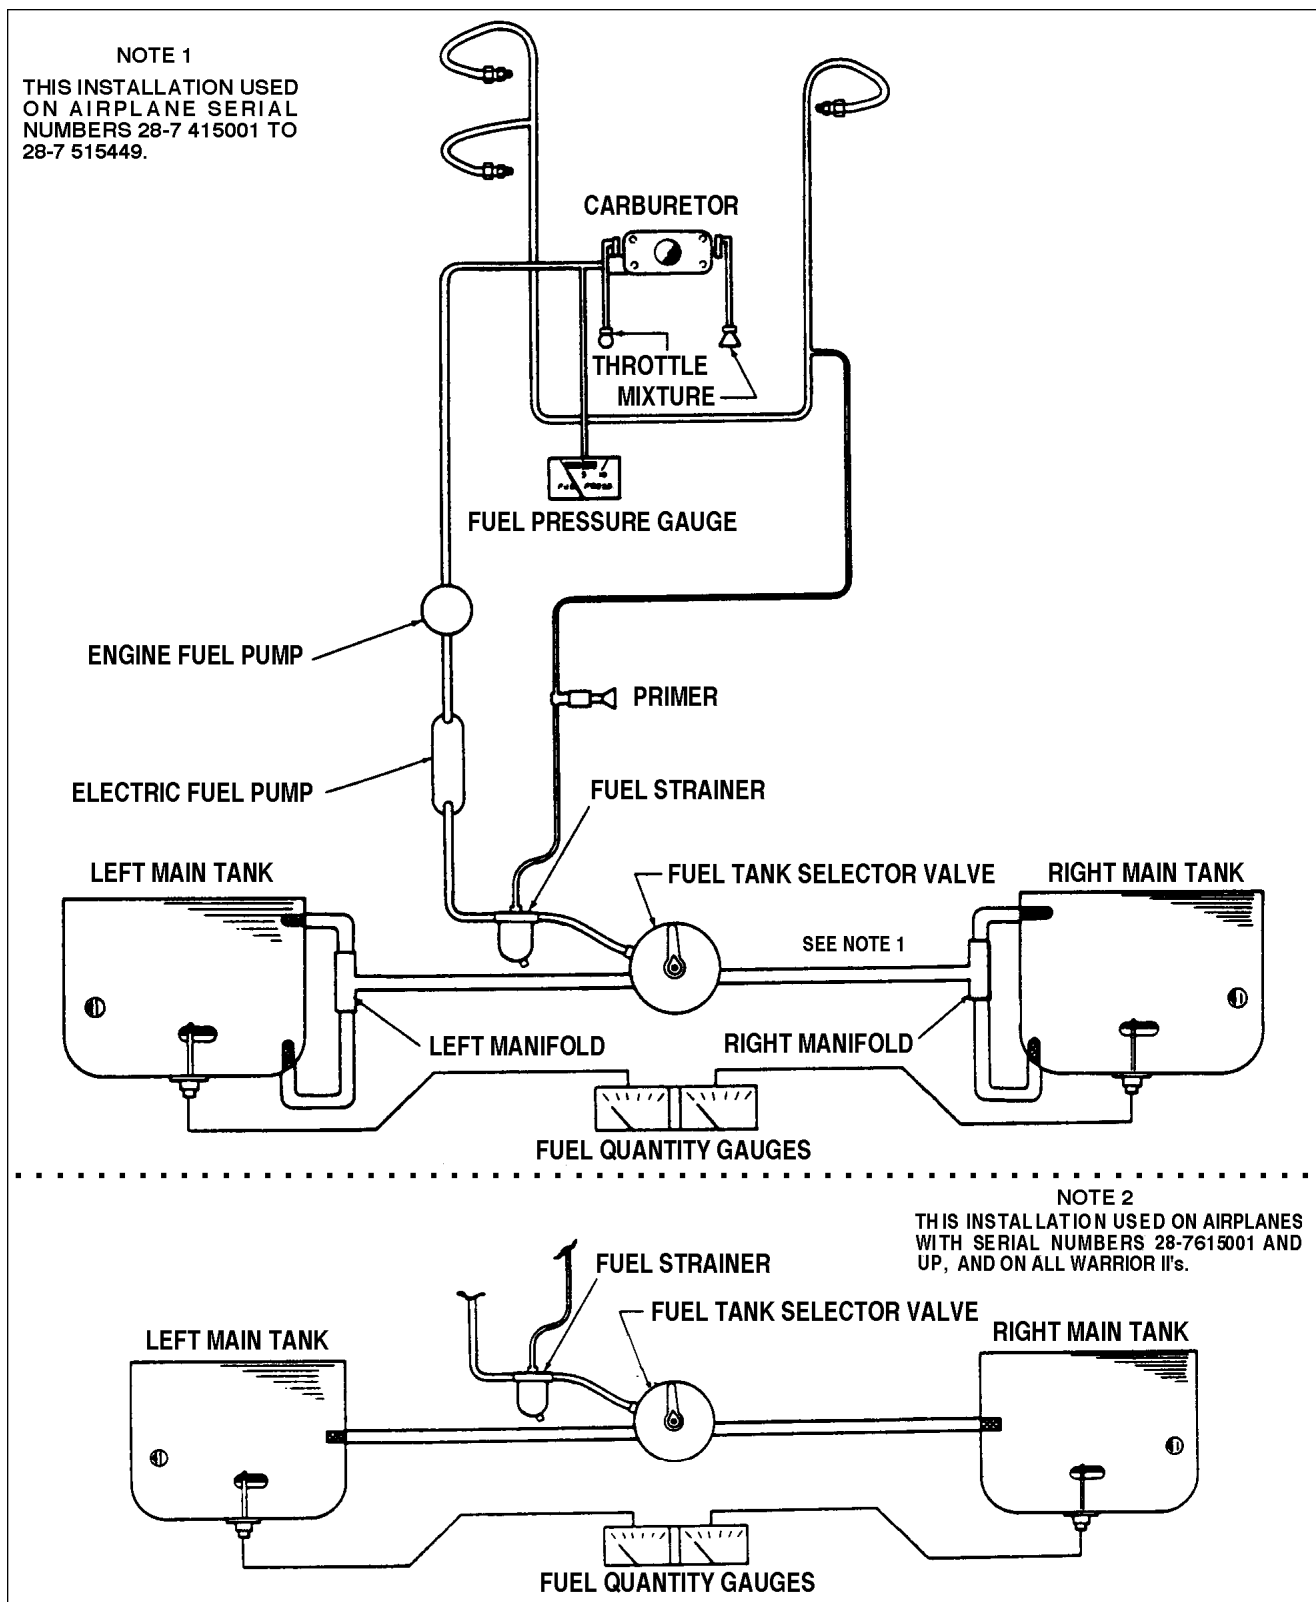

Figure 9-1. PA-28-151 and PA-28-161, Warrior II Fuel Systems Diagram
a. PA-28-151, Warrior and PA-28-161, Warrior II. (Refer to Figure 9-1.)